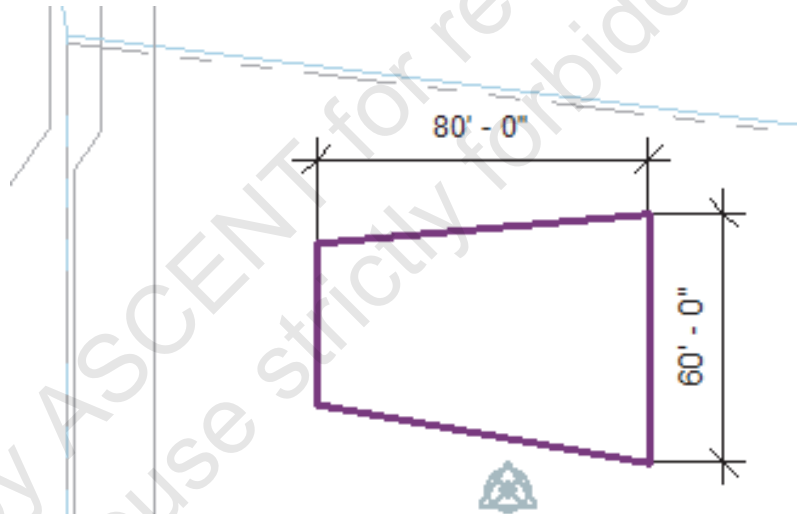

Figure 1–54
6. In the northwest quadrant of the new site, draw a trapezoid shape that is roughly 80' x 60', as shown in Figure 1–54.